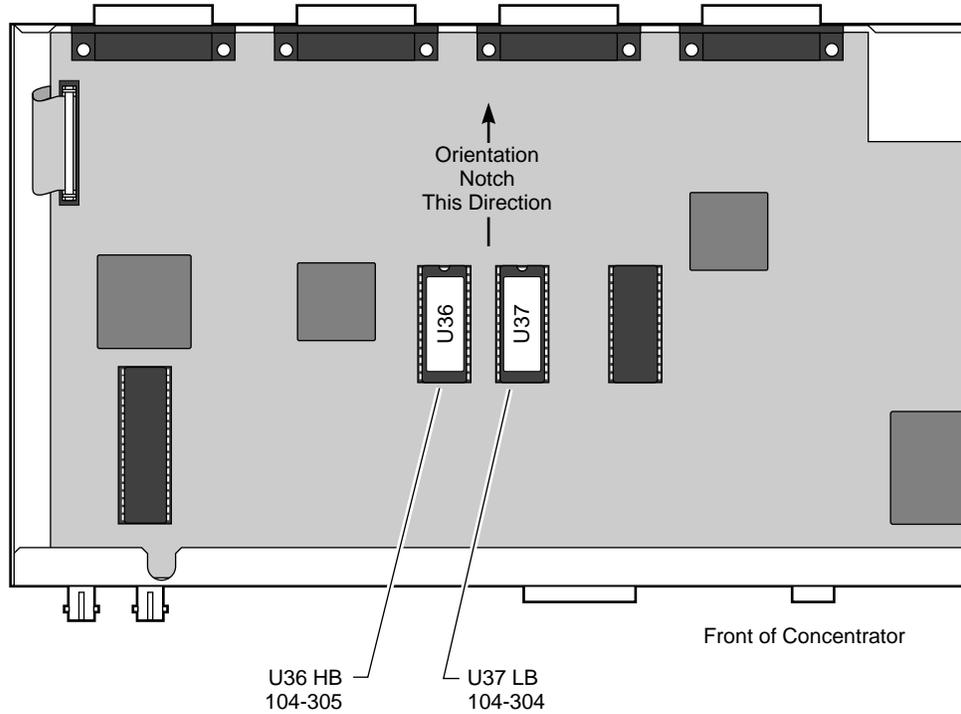

Figure 3. PROM Locations
- 1. Find locations U36 and U37, as indicated in Figure 3.**
- 2. Matching the Boot PROM labels to the socket locations printed on the circuit board, install new PROM P/N 104-305 in location U36 and P/N 104-304 in location U37 (see Figure 3).**